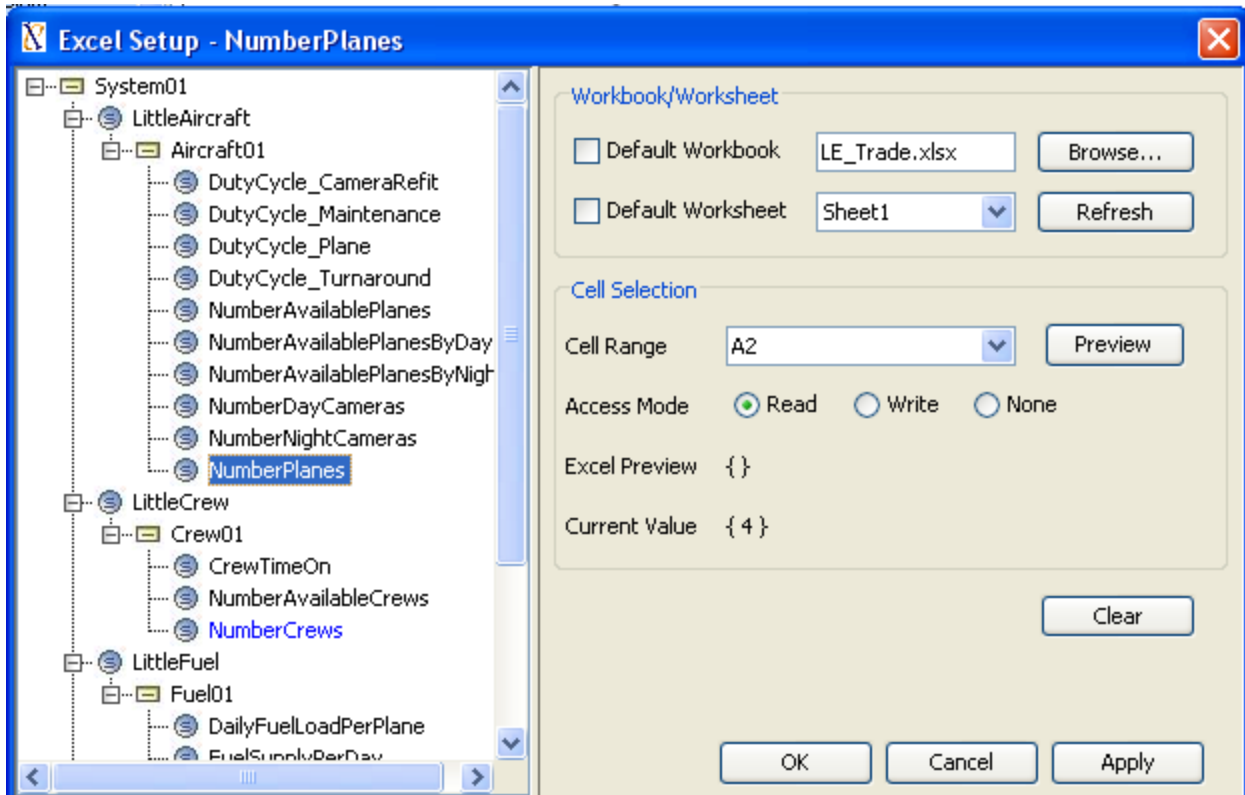

Figure 8.1 Excel Setup window for trade study
- v. Under Access Mode, select Read (see Figure 8.1)